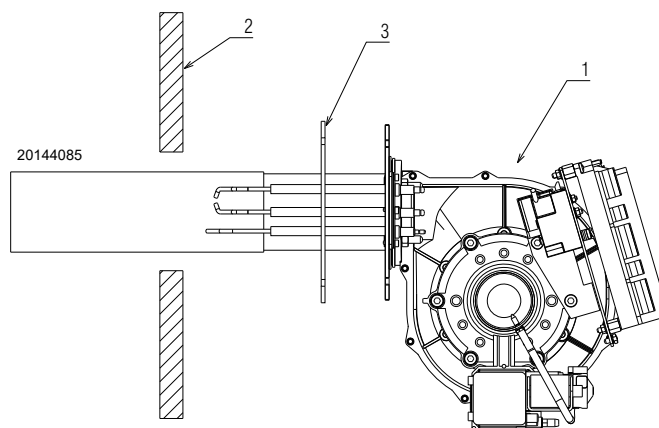

Fig. 12
- Fix the burner 1) to the door of the boiler 2) putting the insulating gasket 3) in between (Fig. 12).